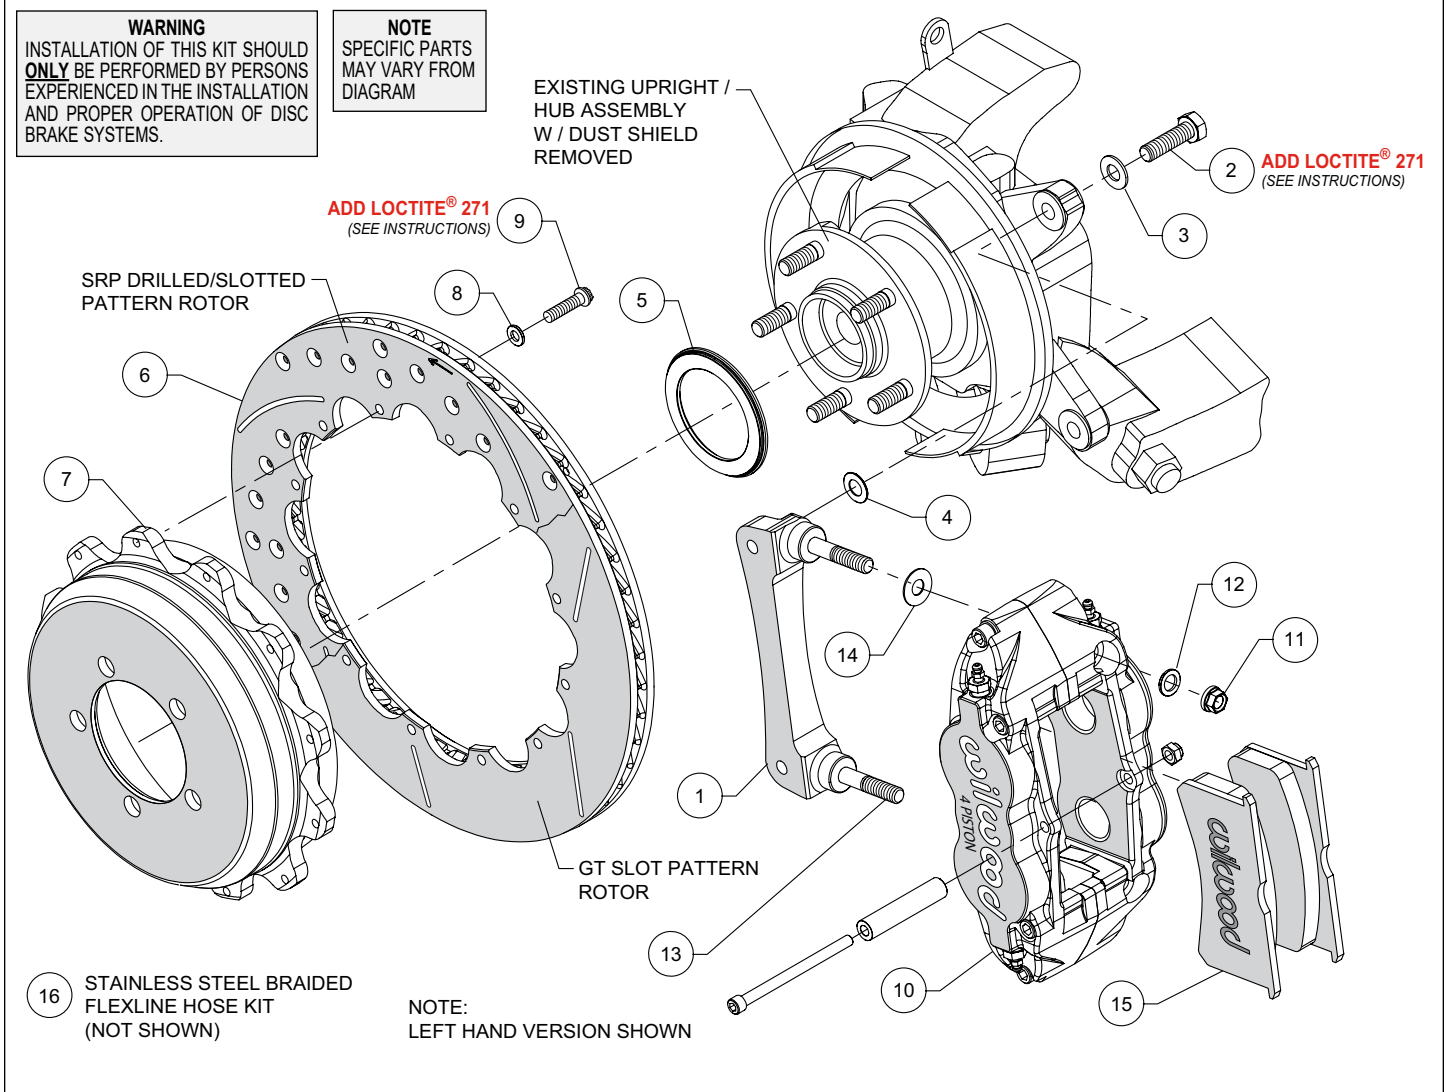
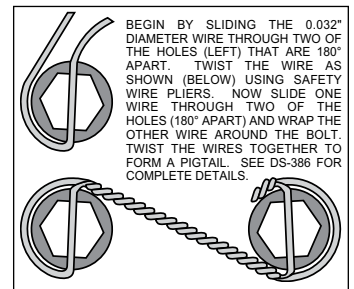

Figure 1. Typical Installation Configuration
Figure 3. Safety Wire Diagram
Assembly Instructions (numbers in parenthesis refer to the parts list and Figure 1 on the preceding pages):
- The caliper mount bracket (1) should initially be installed with clean, dry threads on the mounting bolts. Orient the bracket as shown in Figure 1 and Photo 2, and install using washers (3) and bolts (2). Initially place one shim (4) on each bolt between the bracket and upright, Figure 1. Temporarily tighten the mounting bolts. **NOTE: The bracket must fit squarely against the mount bosses on the upright.** Inspect for interference from casting irregularities, machining ridges, burrs, etc. Later, after the caliper alignment has been checked, the mount bolts will be secured using red *Loctite*® 271.
- Orient the rotor (6) and the hat (7) as shown in Figure 1 and Photo 3. Attach rotor to hat using bolts (9) and washers (8). Apply red *Loctite*® 271 to the bolt threads and torque to 140 **in-lb** using a criss-cross pattern. For an added measure of security, the bolts may be safety wired using standard 0.032 inch diameter stainless steel safety wire as shown in Figure 3. Please refer to Wilwood's data sheet DS-386 (available at www.wilwood.com/Pdf/DataSheets/ds386.pdf) for complete safety wire installation instructions.
- Initially place one .035" thick shim (14) on each stud (13) as shown in Figure 1 and Photo 5. Mount the caliper (10) onto the bracket (1) using lock nuts (11) and washers (12), Figure 1. Temporarily tighten the lock nuts and view the rotor through the top opening of the caliper. The rotor should be centered in the caliper, Photo 6. If not, adjust by adding or subtracting shims (4) between the bracket and the upright. Once the caliper alignment is correct, remove the bracket mounting bolts one at a time, apply red *Loctite*® 271 to the threads, and torque to 40 ft-lb.
- Remove the caliper center bridge pad retainer bolt, nut, and tube from the caliper. Insert the brake pads (15) into the caliper, with the friction material facing the rotor, as shown in Photo 7. Check that the top of the brake pad is flush with the outside diameter of the rotor, Photo 8. If not, adjust by adding or subtracting shims (14) between the caliper and the bracket. After the caliper pad height is set, reinstall the center bridge pad retainer tube, bolt, and lock nut. The lock nut should be snug without play in the bolt or tube. Be cautious not to over tighten. Torque the caliper lock nuts (11) to 30 ft-lb.